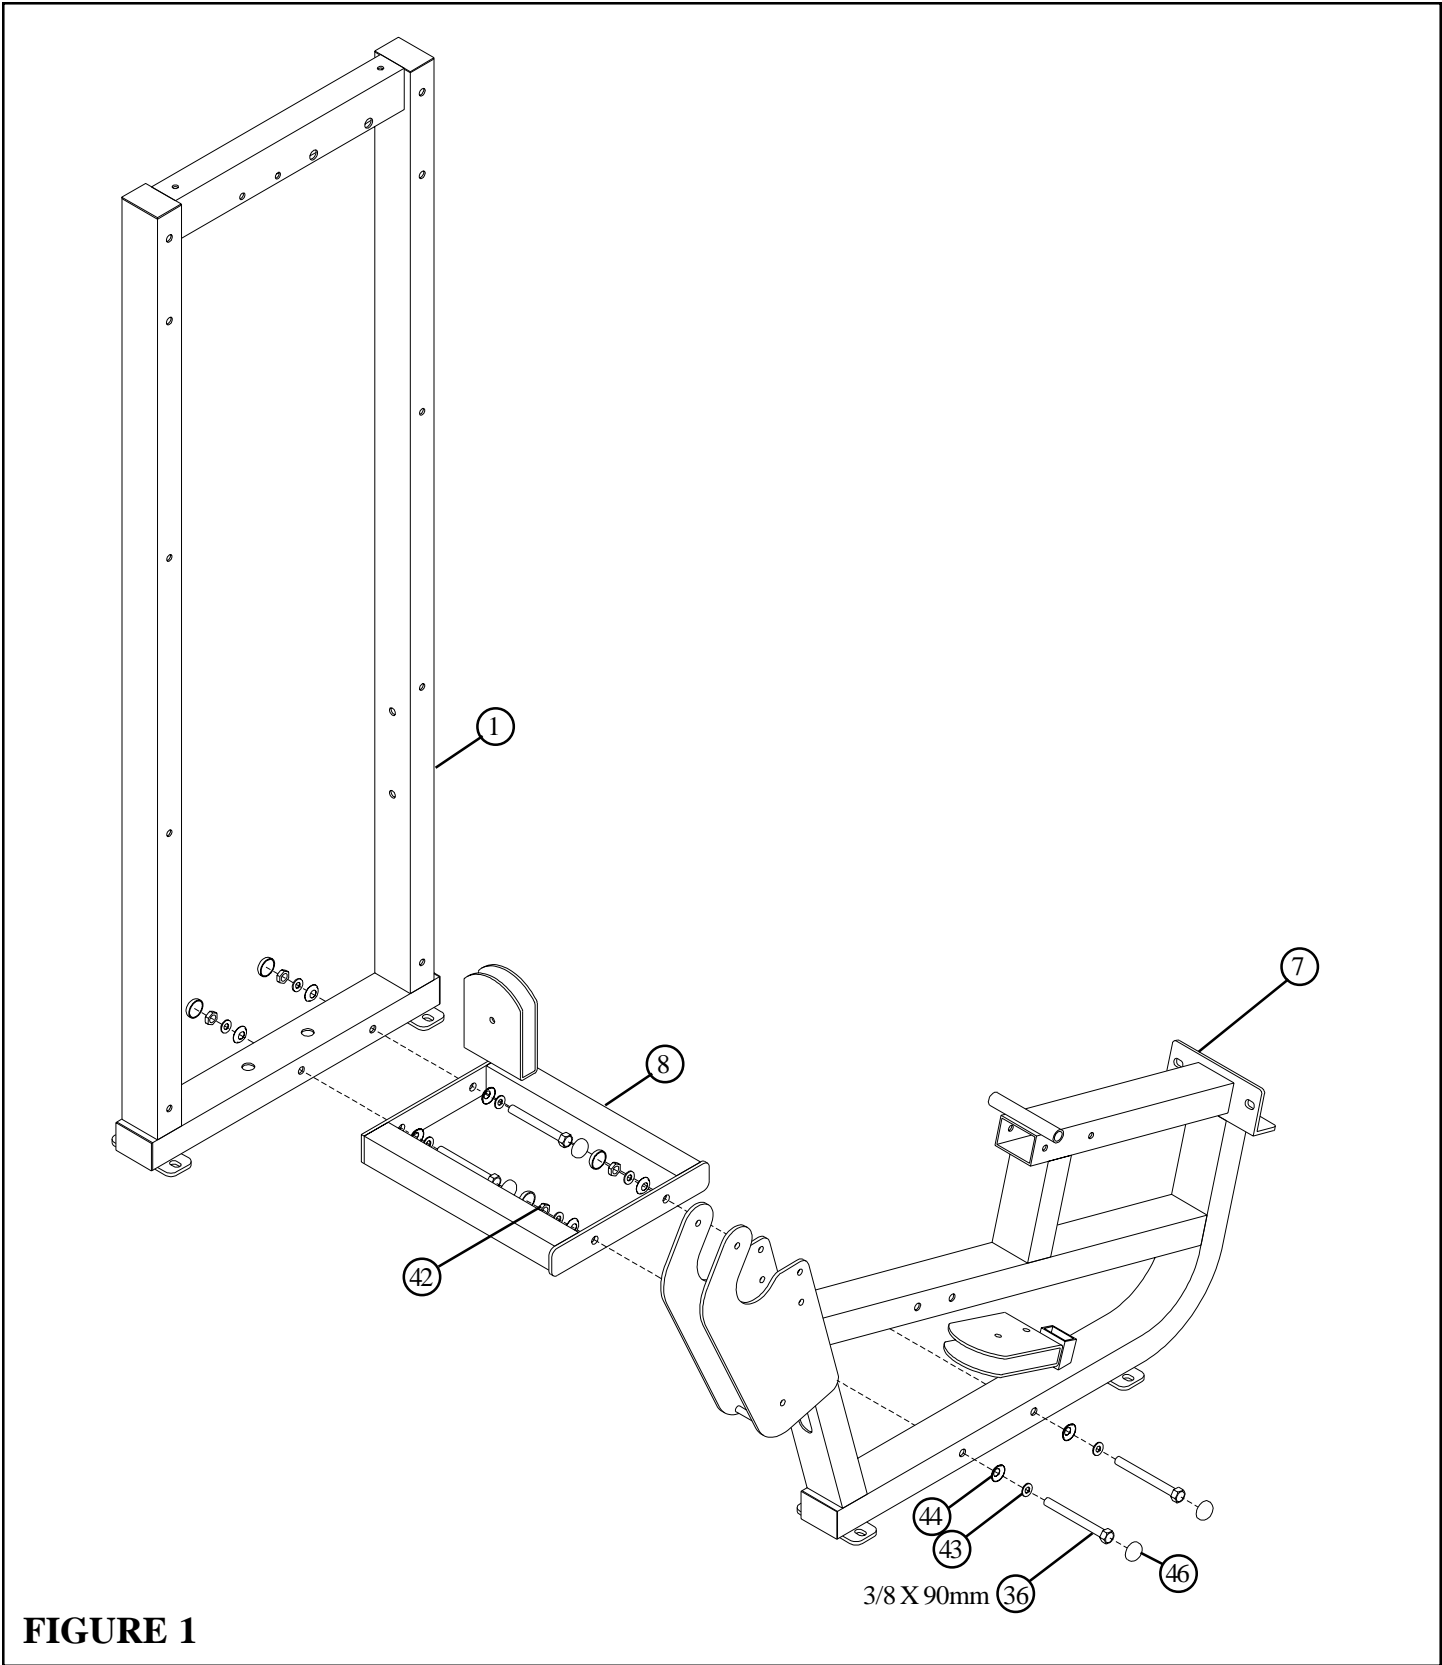

FIGURE 1
- **LOOSELY** assemble the BASE (8) to the FRAME (7) and TOWER (1) using eight RH CAPS (46), four 3/8 X 90mm BOLTS (36), eight 3/8" SAE WASHERS (43), eight 3/8" RH WASHERS (44) and four 3/8" LOW HEIGHT LOCK NUTS (42) as shown in FIGURE 1.